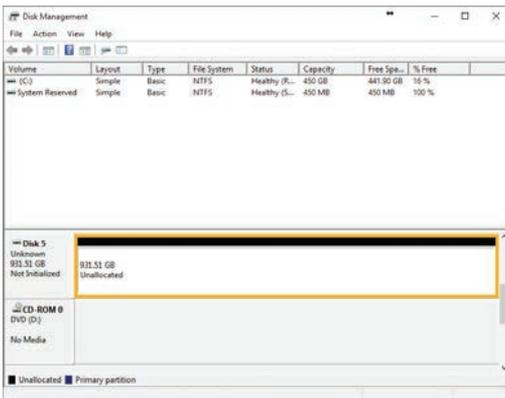

Figure 1. The Disk Management window in Windows 10 is very similar to the one found in Windows 8.1. The Drive Properties Box is highlighted in yellow.
- To format the volume, right-click the **Drive Properties Box** of the drive (highlighted yellow in Figure 1) and select **New Simple Volume...**
- c. To format the volume, right-click the **Drive Properties Box** (highlighted in yellow in Figure 1) and select **New Simple Volume...**